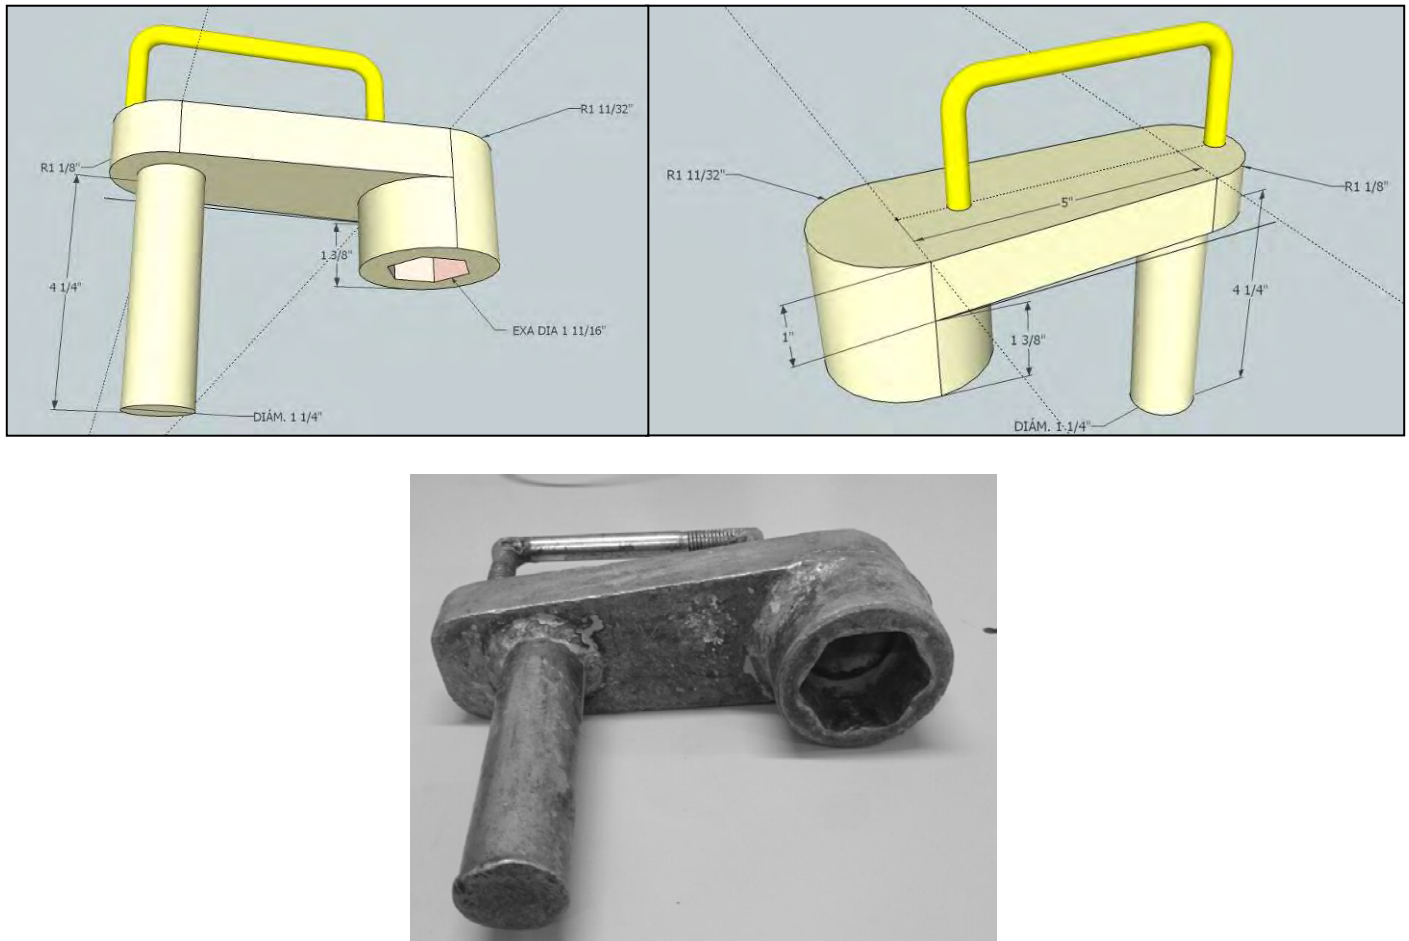

Figure 2. Sprocket segments bolts holding tool.
- Design drawings (see Figure 2)